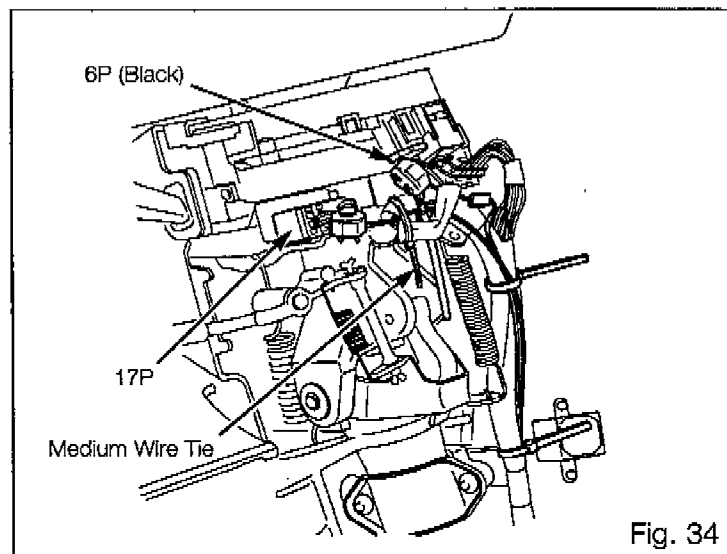

Fig. 34
- (16) A) Reconnect the 17P and black 6P connectors. Fig 34
- B) Secure the RS3000 harness' GREEN/RED and RED/WHITE wires to the vehicle's wire harness with a medium wire tie as shown. Fig 34